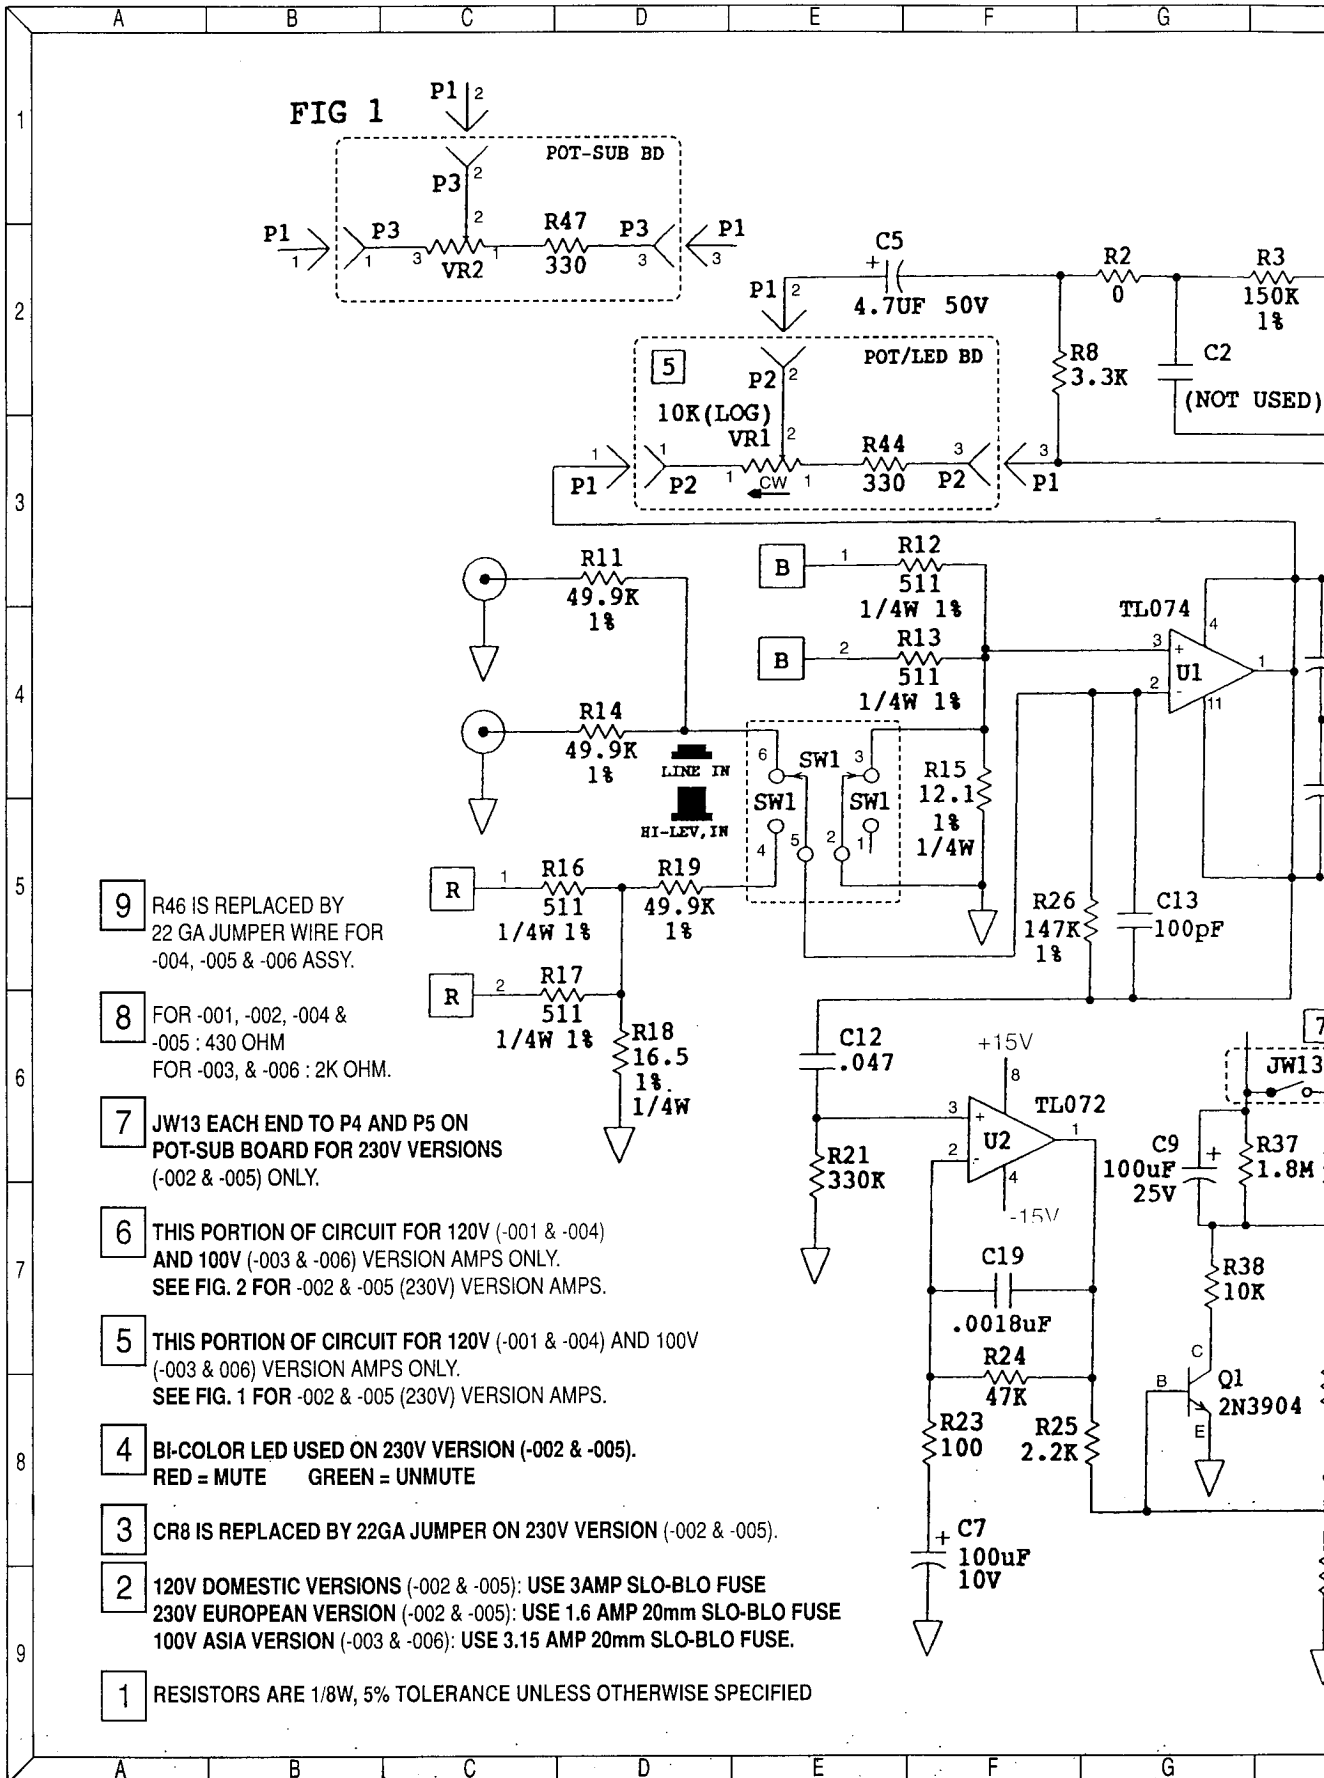

FIG 1
- 5 THIS PORTION OF CIRCUIT FOR 120V (-001 & -004) AND 100V (-003 & 006) VERSION AMPS ONLY. SEE FIG. 1 FOR -002 & -005 (230V) VERSION AMPS.